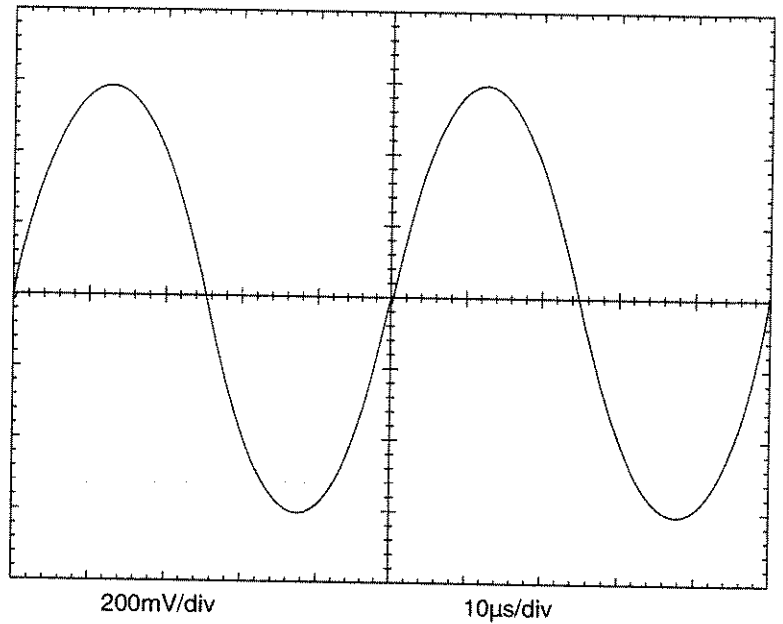

Figure 2-62: DSO Screen
- Step 2:** Adjust the amplitude of the signals from the signal generator so that the waveform is displayed on the DSO screen with the amplitude and sweep speed shown in Figure 2-62.